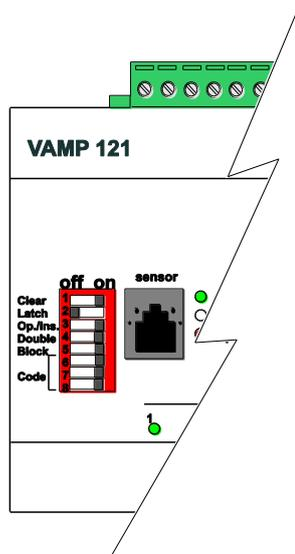

Figure 2-1. VAMP 121(D) dipswitch operations
Dipswitches 1-5 (see Figure 2-1):
- The **Clear** switch (nr 1 in Figure 2-1) is moved to the ON position to reset unit activation- and trip-information, as well as the trip relay, if latched. This switch is also used to clear any fault messages. When the system is in use, this switch must always be in the OFF position.
- The **Latch** switch (nr 2 in Figure 2-1) enables latching of the trip relay. When it is in ON position the latching function is activated.
- The **Operate/ Install** switch (nr 3 in Figure 2-1) is used to read in the configuration (number of connected arc sensors) to the unit eeprom-memory. When the desired number of sensors has been connected, the switch is briefly moved to ON position, to allow the unit register the number of connected arc sensors. When the system is in use, the switch must be in the Operate (OFF) position for the self-supervision to function.
- The **Double** switch (nr 4 in Figure 2-1) enables the choice of trip criteria's. In the “ON” position, two sensor inputs must be activated at the same time for the unit to trip. In the OFF position (normal) the unit trips if any of the sensor inputs become active.
- The **Block** switch (nr 5 in Figure 2-1) temporarily blocks the trip relay (in the ON position) when e.g. testing the unit. The switch must always be in OFF position when the system is in use. As long as the switch is in ON position the System Fault alarm is activated. The same function is attained by activating the binary input on connector X2-7, X2-8 (see also inputs) if switch 8 is “OFF”. When the blocking function is activated, the error led is lit and the SF-relay activated.
Dipswitches 6-8 (Code switches, see Figure 2-1):